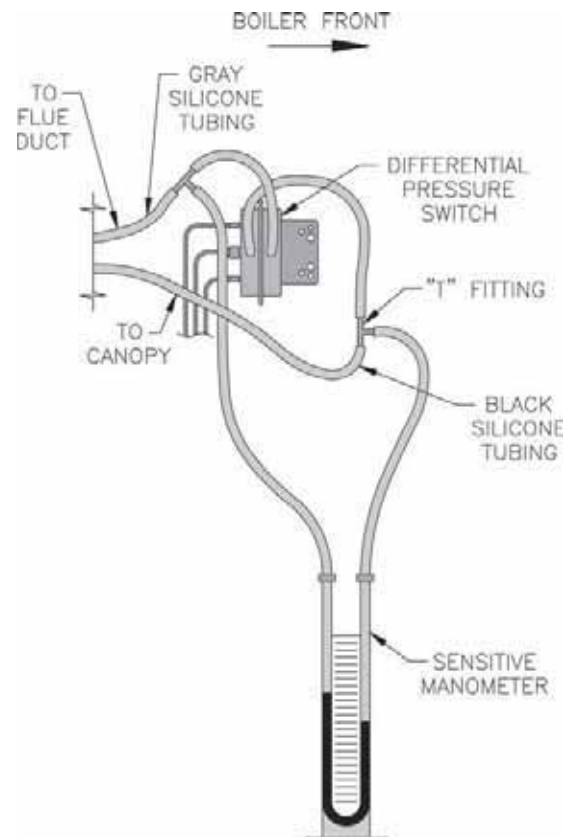

Figure 54: Differential Pressure Measurement
G. Procedure for measuring differential pressure, (see Figure 54).